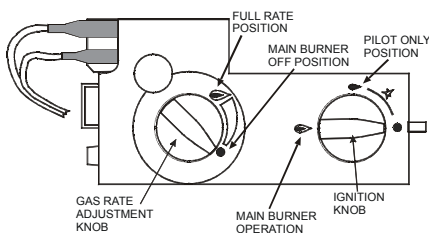

Figure 5 - Gas Valve
5. **Turn the IGNITION KNOB anticlockwise to the Main Burner Operation position as shown in Figure 5.**